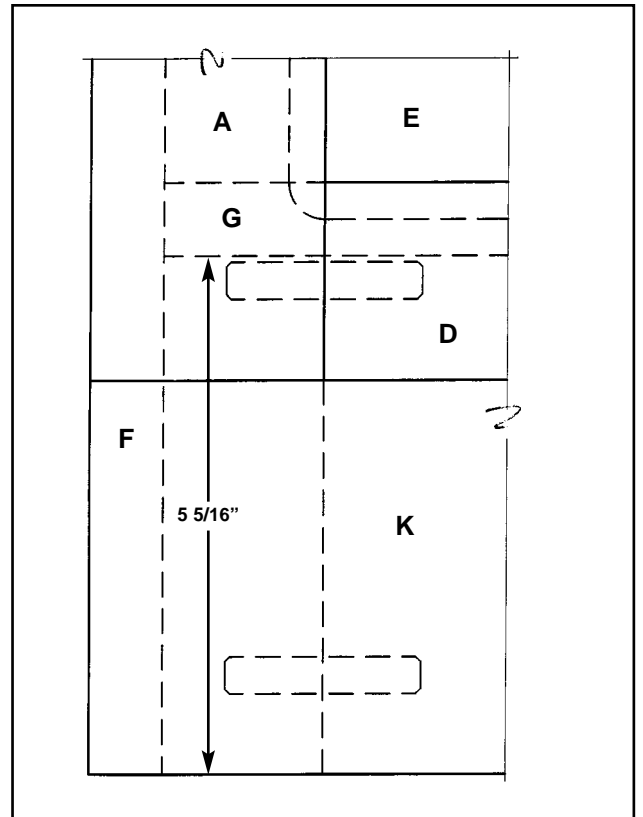

Figure 4
5. Use 1 1/4" finish nails and glue to assemble board G to board F. Refer to Isometric and Figure 4.
6. Nail and glue lower cabinet sides (A, B, C, D, E) to subassembly (F, G). Refer to Isometric and Figure 4.
8. Miter one end of boards K and both ends of board L as indicated in Isometric. Glue boards K and L to the base of the lower cabinet. Refer to Elevations and Figures 4 and 8.